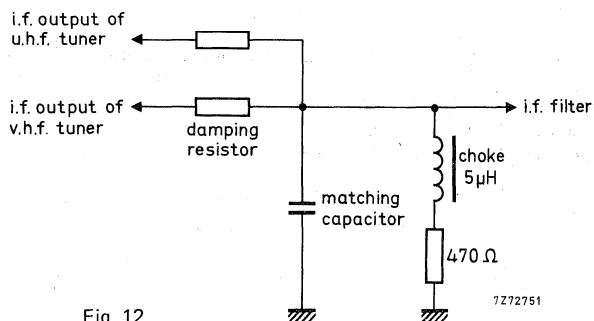

Fig. 12.
The tuner needs a d.c. path from the i.f. output terminal (T) to earth, preferably via a choke of approx. $5\ \mu\text{H}$ outside the tuner (Fig. 12). Where the tuner is used in combination with a u.h.f. tuner, this choke can be common for both tuners; a resistor in series with the choke can make ineffective the i.f. output circuit of the switched-off tuner. For damping the i.f. output circuit and matching the i.f. output impedance of the tuner to the i.f. amplifier, a series resistor and a parallel capacitor as shown in Fig. 12 should be used (During v.h.f. operation the voltage across the $470\ \Omega$ resistor is 1 to 1,2 V).